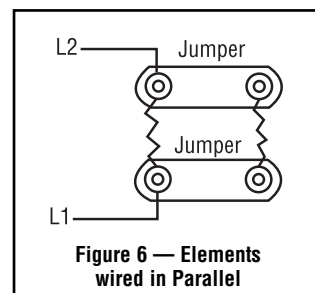

Figure 6 — Elements wired in Parallel
- B. For rated output for all other heater bands, connect heating elements in parallel and make line connections as shown in Figure 6.